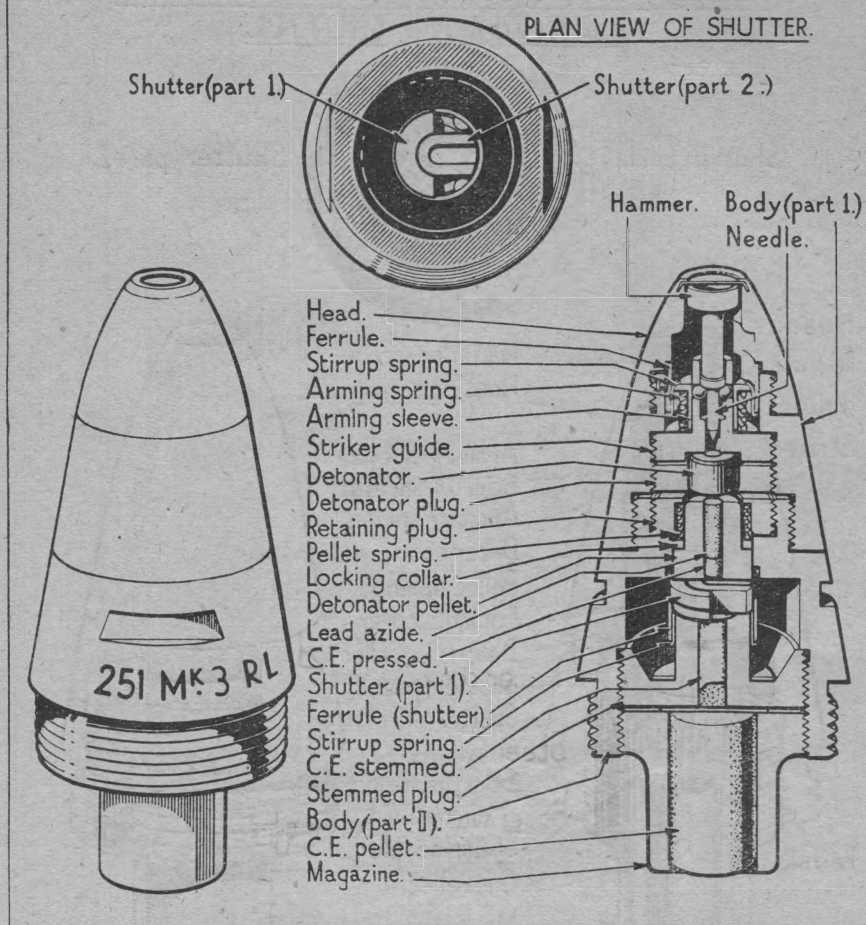

FIG. 57.
**111. Fuze, Percussion, D.A. No. 251** (Fig. 57).—The Mark 3, No. 251, D.A. percussion fuze consists of the following principal parts:—